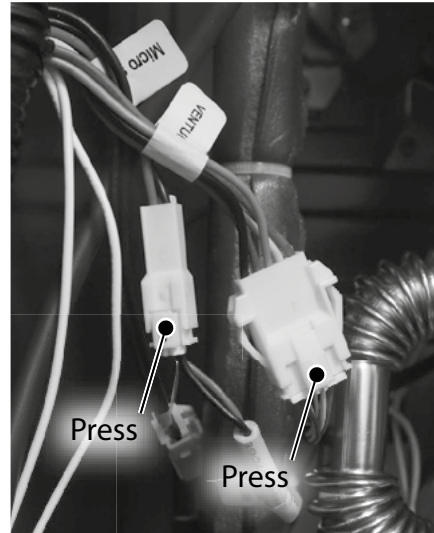

Figure 5 - Locate venturi and micro switch wires
- 17** Locate the wire connectors labeled "Venturi" and "Micro Switch" and disconnect them as shown in Figure 5. These wires are connected at and run through the black cable conduit located on the left side of the water heater cabinet.